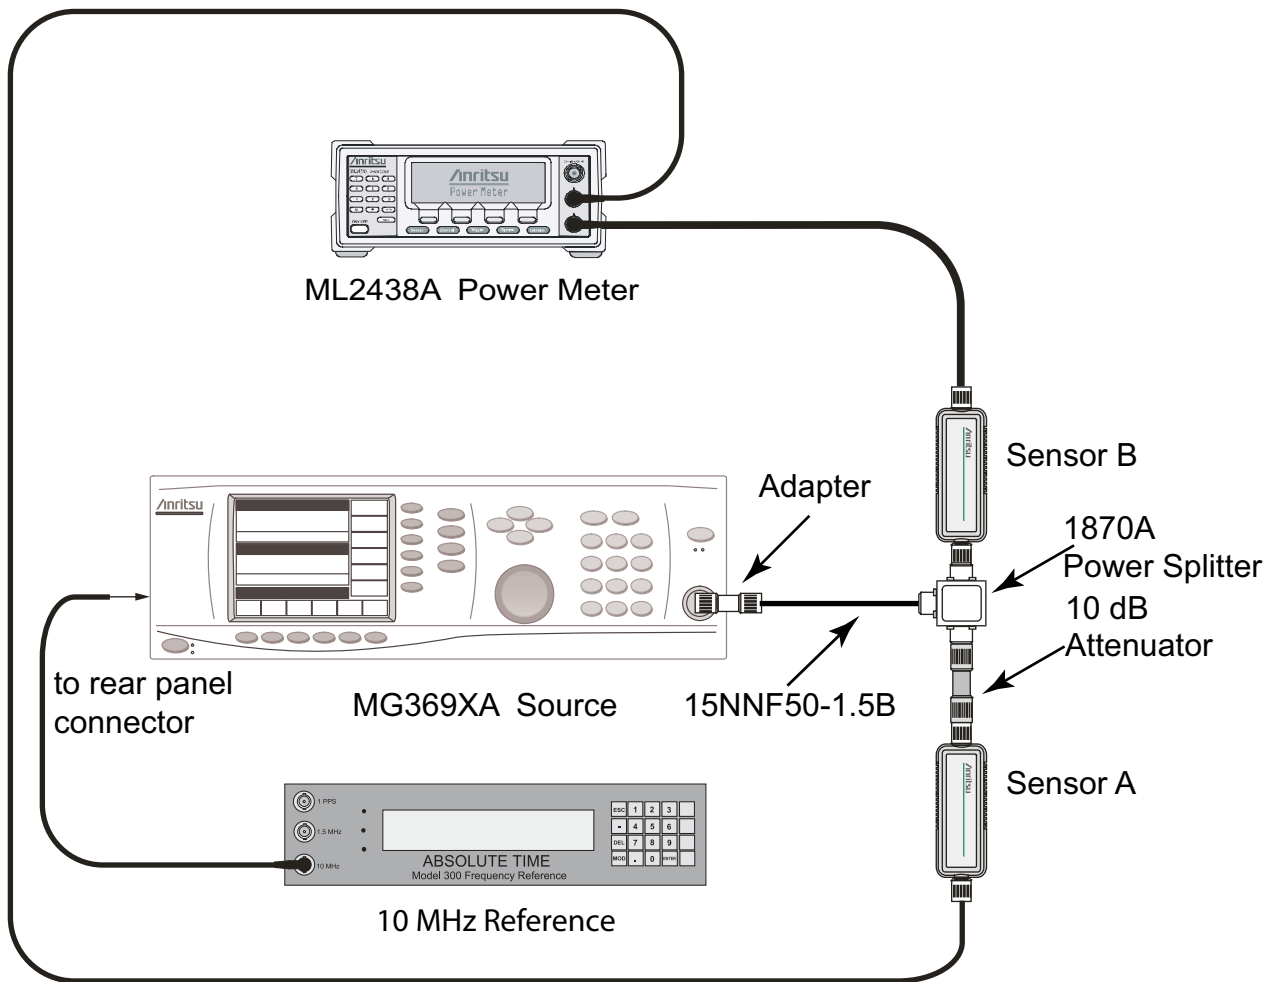

Figure 2-9. 50 MHz Amplitude Accuracy Verification – Component Characterization Setup
3. Connect the Model 1870A power splitter to the MG3692x output via the 34NN50A adapter, and connect Sensor B to one of the power splitter output connections (refer to Figure 2-9).